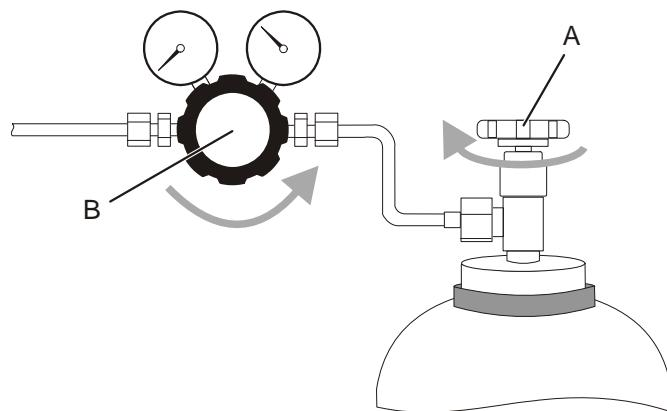

Figure 69: Shutting down the gas supply
1. Close the valve on the gas cylinder (see Figure 69, A) by turning it clockwise to its stop.
2. Turn the valve on the gas pressure regulator (see Figure 69, B) counter-clockwise to its stop. This ensures that the pressure regulator is closed.